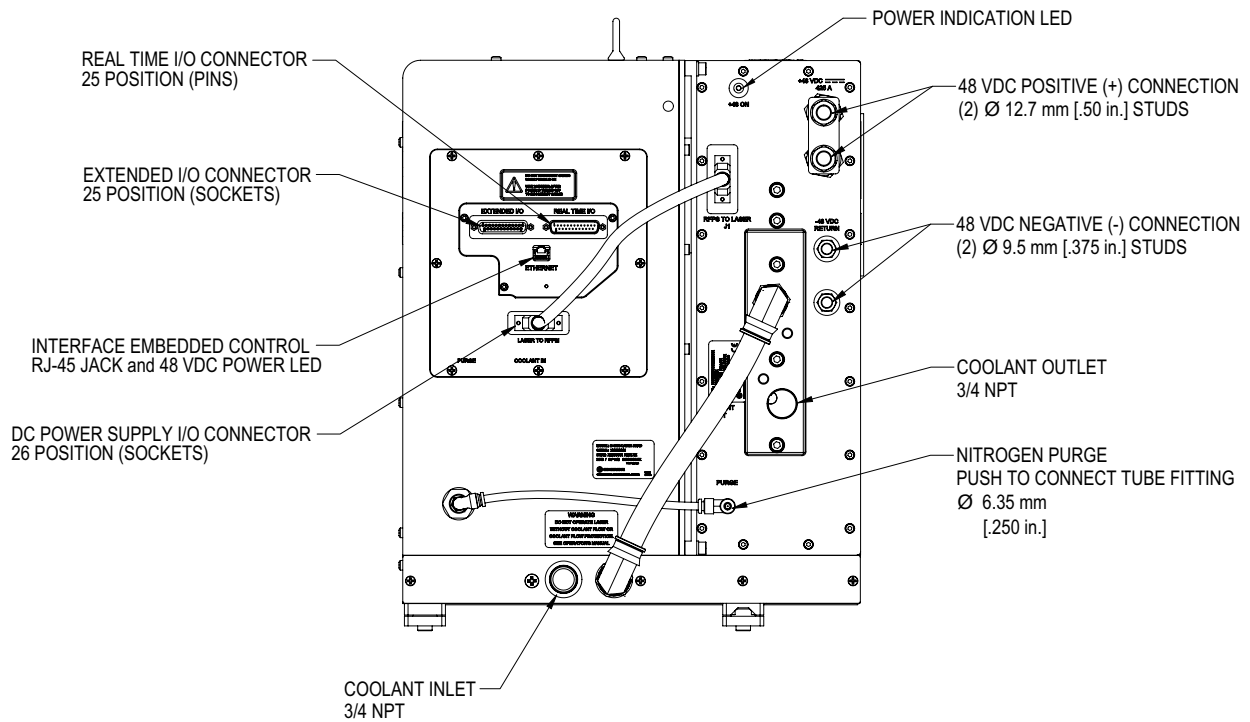

Figure 4-23. J-1000 Series Interface Connectors
Refer to Figure 4-23 and Table 4-4 for the location and description of the laser head indicators and connections.
1. Connect the tubing to the Tee as described in "Optics Purge Connection" (p. 77). Refer to Figure 4-23, "J-1000 Series Interface Connectors" (p. 76) for the purge gas line connection point.
Connect the fittings and coolant lines to the laser system, with the particle filter connected to the inlet coolant line near the laser head. Connection points are shown in Figure 4-23, "J-1000 Series Interface Connectors" (p. 76). Use Teflon tape on fittings. Observe the coolant flow direction shown in Figure 4-3, "Coolant Flow to Laser System" (p. 46).
The J-Series RF module DC Return is internally grounded directly to the chassis ground of the laser system. DC power supply cables from the DC power supply are to be connected directly to the marked connectors on the rear panels, see Figure 4-23, "J-1000 Series Interface Connectors" (p. 76).